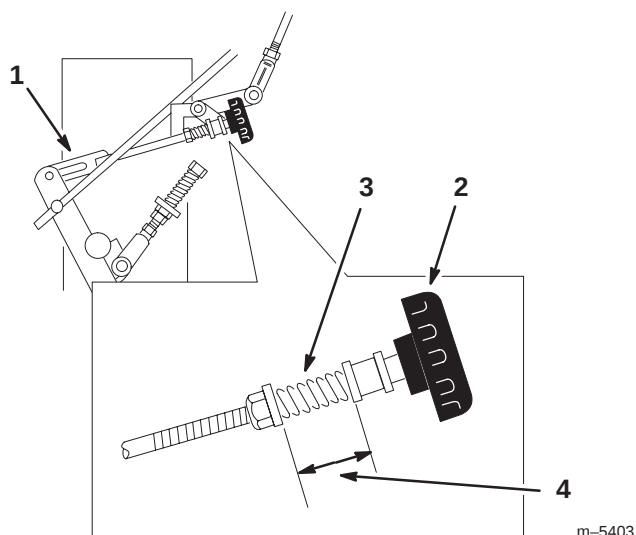

Figure 41
4. Adjust the right side linkage by turning the quick track knob counterclockwise until the tire begins to rotate forward (Fig. 41).
5. Turn the knob clockwise 1/4 of a turn at a time. Then move the speed control lever forward and back to neutral. Repeat this until right wheel stops rotating forward (Fig. 41).
6. The spring that keeps tension on the knob should normally not need adjustment. However if adjustment is needed, adjust the length of spring to 1 in. (26 mm) between the washers (Fig. 41).
7. Adjust spring length by turning nut at front of spring (Fig. 41).